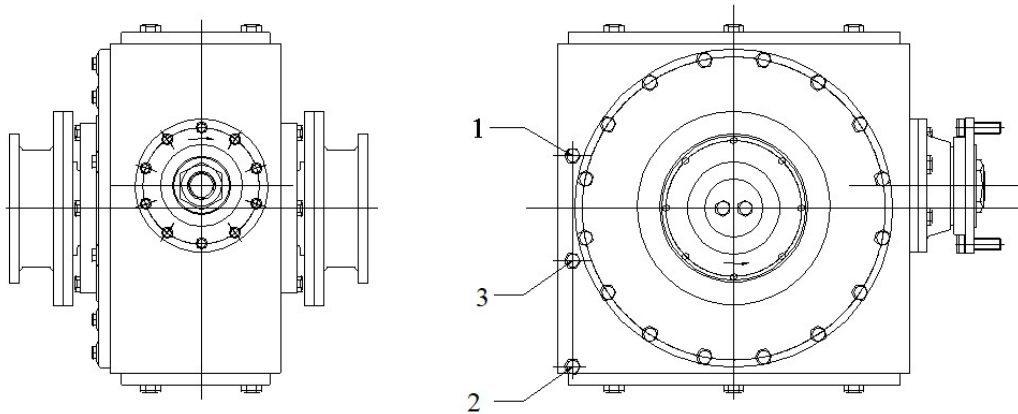

Figure 8.6.8-1 oil port location of gearbox
3. Open the oil port bolt (2) as shown in figure 8.6.8-1, drain oil into the container and open the bolt oil port bolt to let the air in the cavity circulate and speed up the oil flow out;